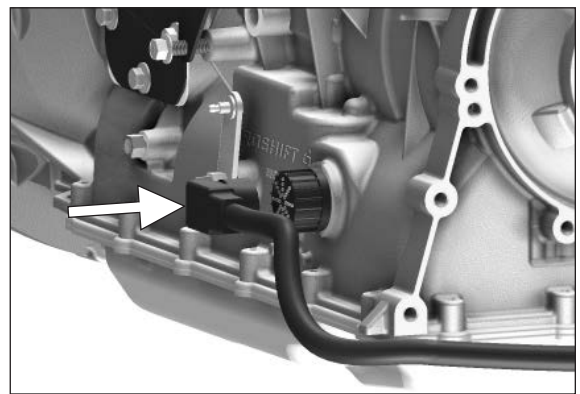

Figure 38
19. Reinstall the transmission electrical connection plug. Verify that the connector has a tactile click when reinstalling the connector. Failure to properly reinstall the connector can lead to transmission issues (**Fig. 38**) (**249V**).